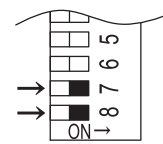

Fig. 5
12. Set the appliance to 'Forced High' combustion by setting both No. 7 and No. 8 dip switches of the bottom (SW1) set to 'ON'. (Fig. 5). **Ensure maximum water flow !**